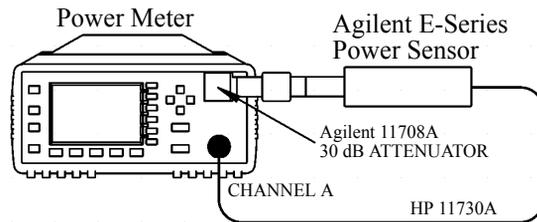

Figure 2-6: Sensor Functional Test Setup with Attenuator
6. Connect the 30 dB attenuator as shown in Figure 2-6.